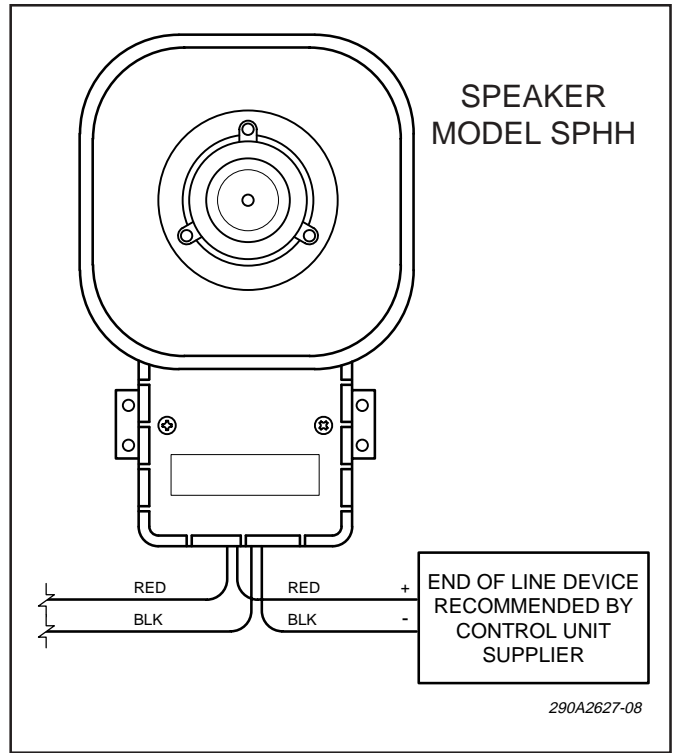

Figure 2. Typical Installation Wiring.
1. See figures 2 and 3. Connect the audio common (-) leads to the speaker's common terminal and audio positive (+) leads to desired wattage terminal.